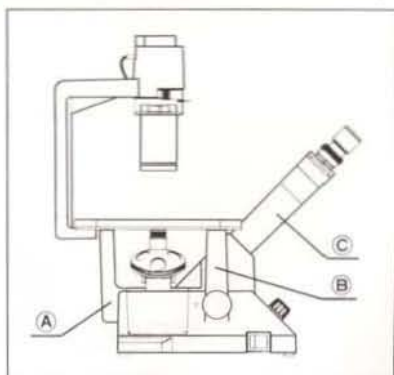
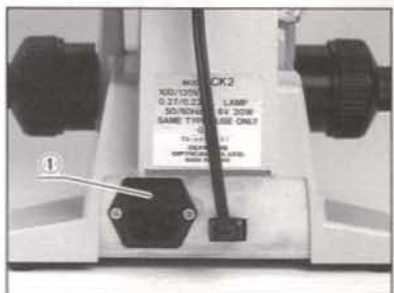

Fig. 1
Fig. 2
- ① As a microscope is a **precision instrument**, always handle it with the care it deserves and **avoid abrupt motions and shocks**.
- ② When you remove the microscope from the styrofoam case, hold the stage legs at **(A)** and **(B)**. (Fig. 1)
- ③ For movement of the microscope, hold the stage leg **(A)** and the observation tube **(C)**. Do not hold the lamp housing pillar. (Fig. 1)
- ④ The light source incorporates a 6V 20W halogen bulb. Do not use any other bulb.
- ⑤ **Avoid exposure of the microscope to direct sunlight, high temperature and humidity, dust and vibration.**
- ⑥ Before use, ascertain that the line voltage selector switch at the base plate of the microscope stand is set in conformity with the local line voltage.
- ⑦ Before fuse replacement, disconnect the power cord from the AC outlet. The fuse box **①** is located at the back of the microscope stand. (Fig. 2)